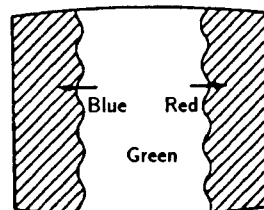

Fig.3
4. Move the deflection yoke backward, and adjust with the purity control so that green is in the center and red and blue are at the sides evenly. (Fig.3)